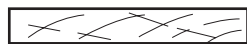
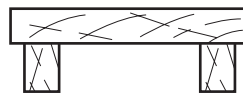

Fig. 13
Fig. 14
- (ii) Fig. 13 and Fig. 14 show two cross-sections of two ways of making the wooden seat.
Explain why the section shown in Fig. 14 is more structurally sound than the section shown in Fig. 13.